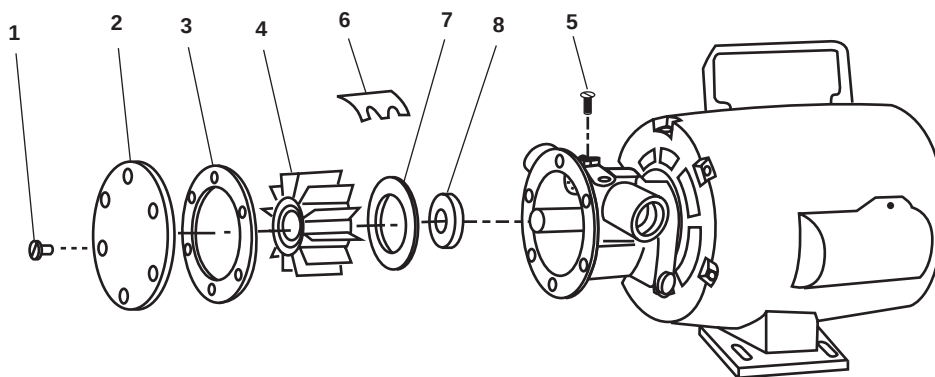

Figure 1. Portable Pump (JABSCO Model 11810-Series)
1. Remove the six screws (figure 1, item 1) from the end cover (figure 1, item 2). Remove the cover and the gasket (figure 1, item 3). Discard the gasket.
2. Remove the impeller (figure 1, item and 4) from the pump's shaft.
3. Loosen the cam screw (figure 1, item 5) and remove the cam (figure 1, item 6).
4. Remove the wear plate (figure 1, item 7) and the shaft seal (figure 1, item 8).
1. Install a new shaft seal (figure 1, item 8) in the seal's bore with the seal facing the back of the impeller (figure 1, item 4). Apply general purpose grease to the back of the shaft seal's lip.
2. Install the wear plate (figure 1, item 7), aligning its slot with the dowel pin.
3. Apply sealing compound Locktite 242 to the top of the cam (figure 1, item 6) and the cam screw threads (figure 1, item 5). Install the cam and cam screw.